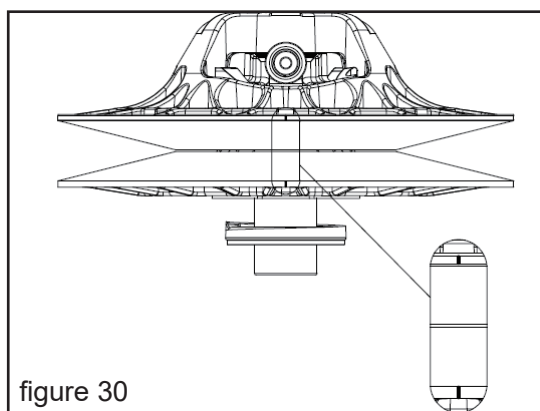
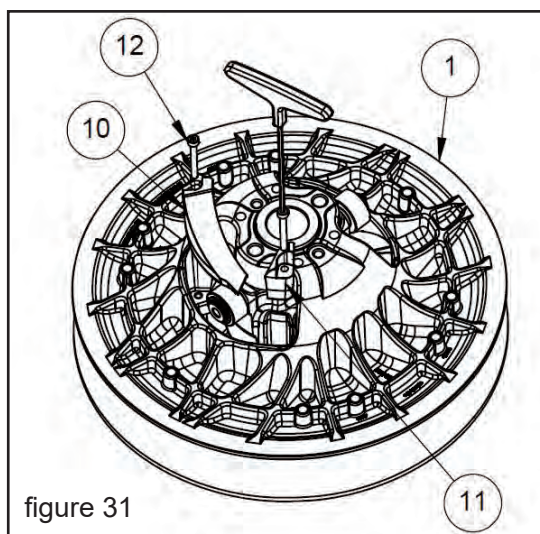

figure 30
figure 31
- ◆ • Insert the sliding sheave ② on the fixed sheave ① and make sure that the alignment notches are aligned (see figure 30).
- ◆ Insert the 2 forward ramps ⑩ and the 2 rear ramps ⑪ in the fixed sheave ①.
- ◆ Torque the 4 screws ⑫ to 3,5 Nm (see figure 31) .